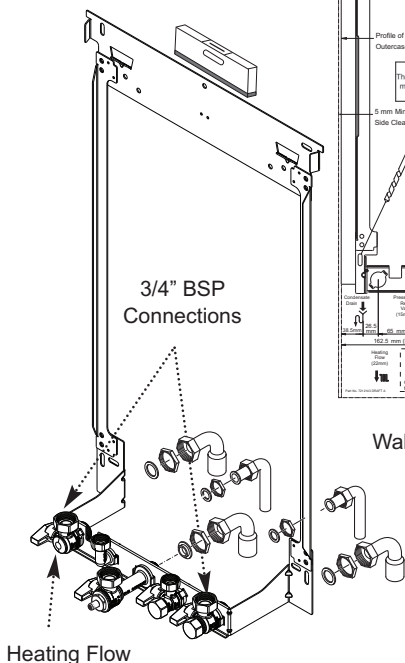

Fig.16
7. Using a spirit level ensure that the wall jig is level before finally tightening the screws (Fig. 16).